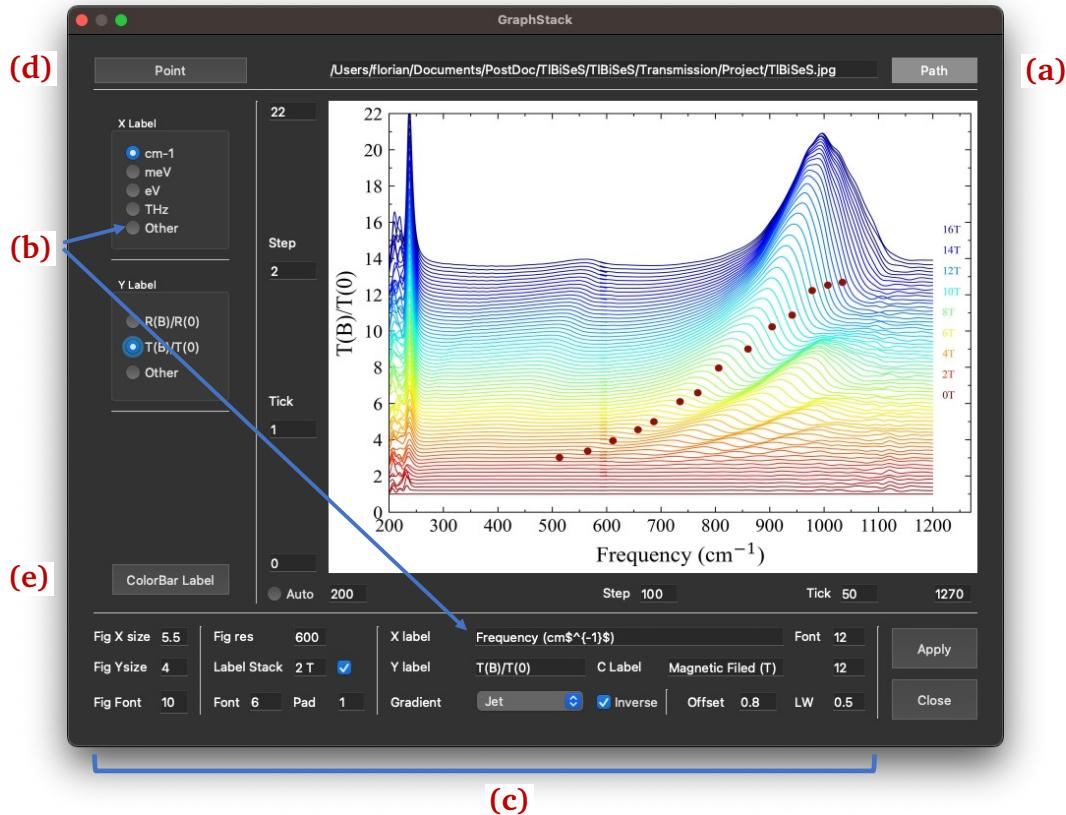
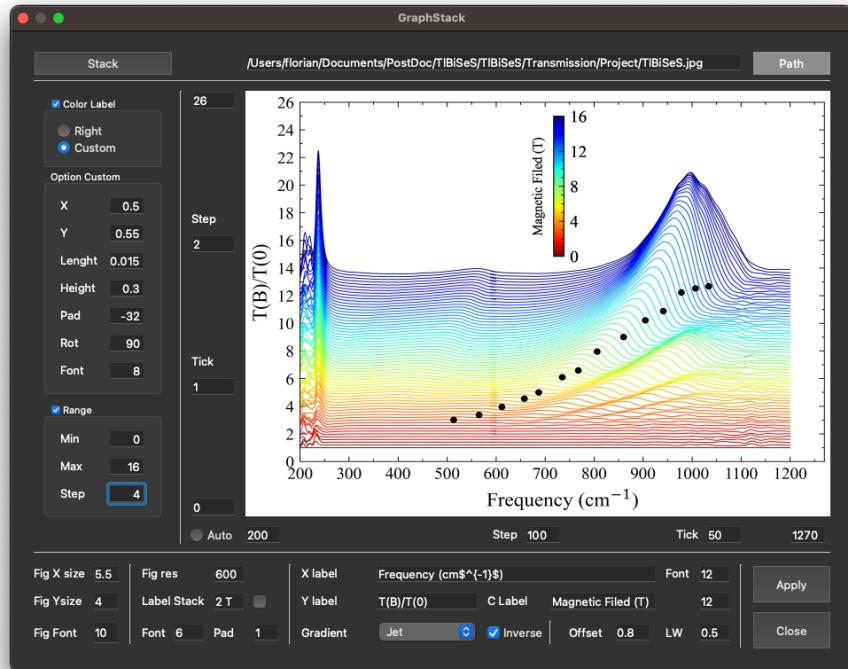

Figure VI.1: GraphStack window to export stack figures.
Figure VI.3: GraphStack window to export stack figures, with the color bar option.
Let's start with the Stack case and understand the mechanics behind plotting a figure. To reach the **[GraphStack]** window, you should be in the **[Stack]** tab and click on the **[Export]** icon button. A window of the shape, as shown in Fig. VI.1, should appear. In this example, I've already plotted the stacks of TLBiSeS in transmission, without logarithmic transformation. In Fig. VI.1, I've also labeled a few important steps to help you produce an image.
(d) – As you can see in the image in Fig. VI.1, the points we picked are plotted. To interact with those
- Instead of the normal legend, you can have a color bar legend. This is a bit tedious, but you should first uncheck the **[Label stack]** checkbox. Click on the button **[ColorBar label]**. A new section will appear, as represented in Fig. VI.3.
The **[Color label]** will refer to the position of the color bar. **[Right]** will take the full size of the Y length of the picture and be outside of the image. If you choose **[Custom]**, as in Fig. VI.3, the color bar will be inside the image, and you could define the position, length, height, etc. The section **[Range]** will allow you to control the ticks of the color bar. And finally, in Fig. VI.1 (c), the **C label line** will be the legend of the color bar if you use it.